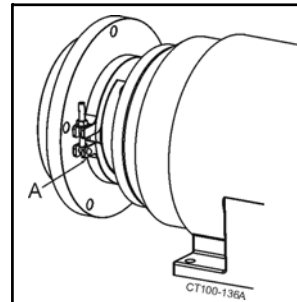

Figure 31 - Clamp Impeller/Backplate to Motor Adapter
- Install clamp and position bolt/nut connection at 7 o'clock allowing easy access to front cover bolts. (Figure 31).